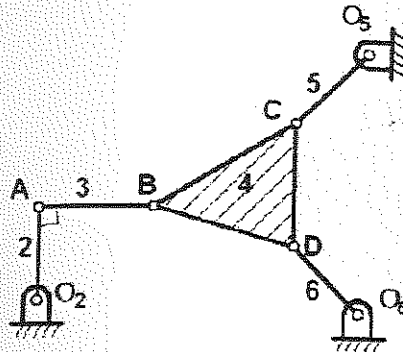

Figure 3
- (b) Determine the angular velocities of link 4, 5 and 6 for the mechanism shown in Figure 3 using auxiliary point method. $O_2O_6 = 60mm$, $O_2A = 18mm$, $AB = 20mm$, $BD = 22mm$, $DO_6 = 18mm$, $CD = 22mm$, $BC = 28mm$, $CO_5 = 18mm$, angle between O_2A and the frame is 90° . O_2O_6 may be drawn horizontal. O_5 is at a height of $60mm$ above O_2O_6 .